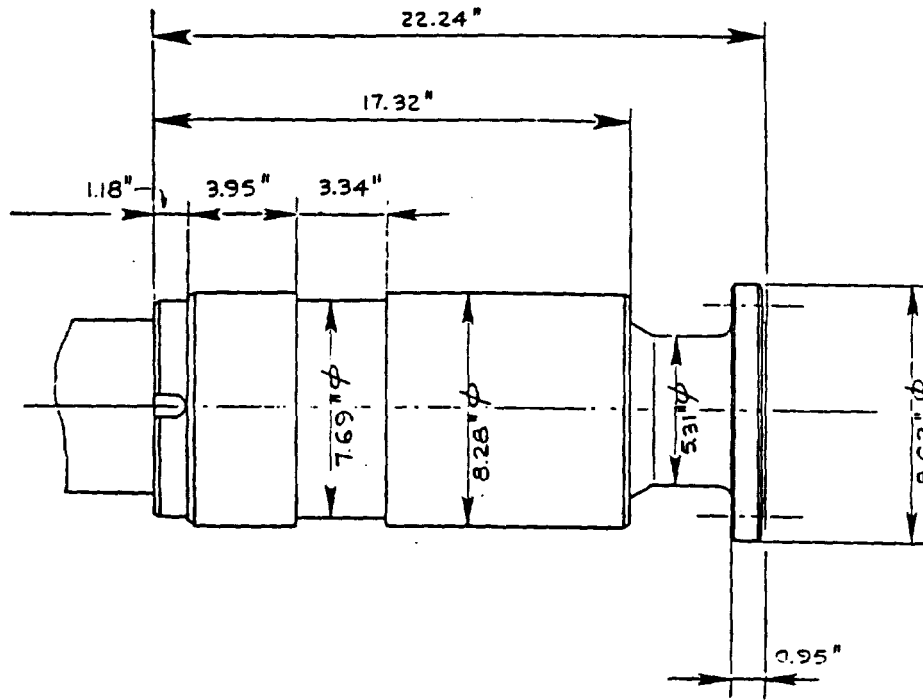
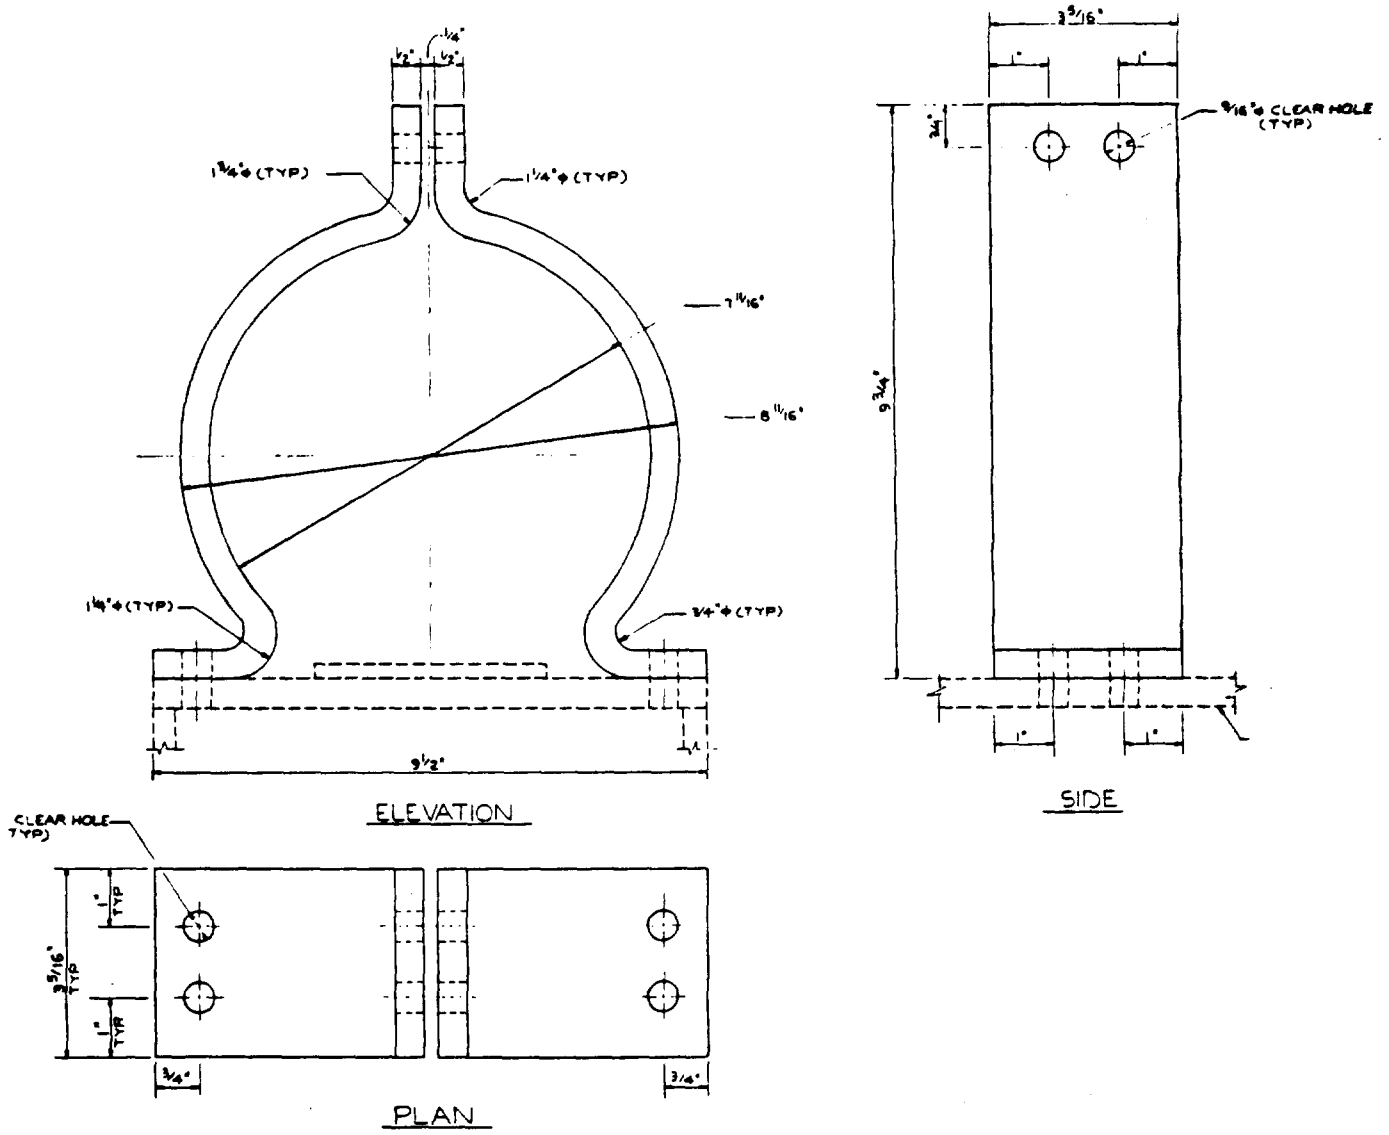

Figure 6-5. 6 Inch O. D. Water Hose Line
Figure 6-6. 6 Inch Water Hose Line End Termination
The water hose line end termination as depicted in Figure 6-5 must be rigidly attached to the winch hub. The winch hub incorporates a chute for the water hose line end termination to enter the inside of the hub and be clamped using the Bolt-Down clamp depicted in Figure 6-6.
- 2) Rigidly attach termination to chute base with Bolt-Down Clamp as depicted in Figure 6-6. All necessary fastener hardware has been provided.